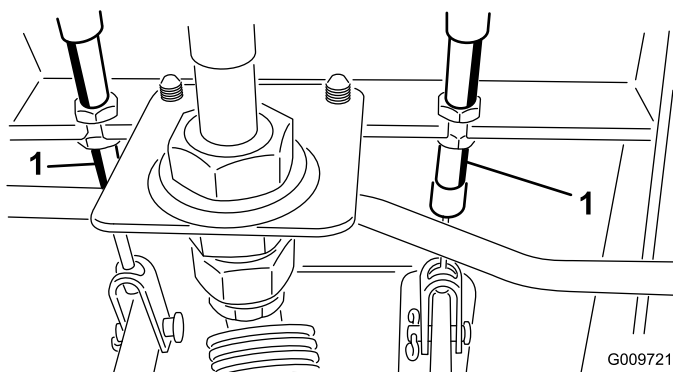

Figure 59
- A. Loosen the front nut on the threaded end of the brake cable (Figure 59).